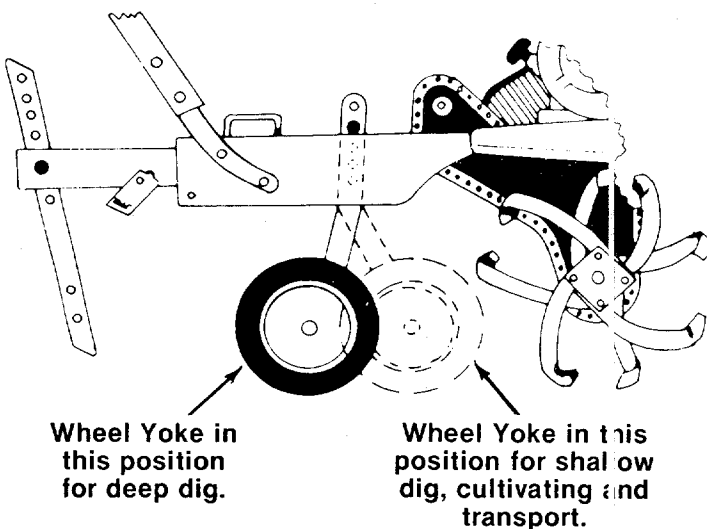

FIGURE 20.
1. **Wheel Yoke Adjustment:** Place wheel yoke so that the wheels are forward (nearest point between wheels and tines) for shallow tilling, cultivating and transport. This will also increase the forward speed. See figure 20. Turn yoke around (farthest point between wheels and tines) for deep tilling. Forward speed will decrease. See figure 20.